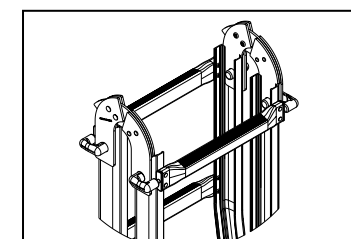
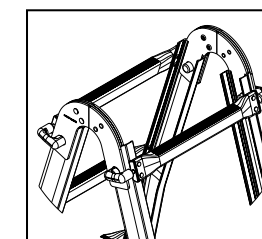

Figure 7
Figure 8
- 6) Ensure rungs face out opposite the hinge hook direction (See Figure 7). Spread outer sections apart as shown in Figure 8.